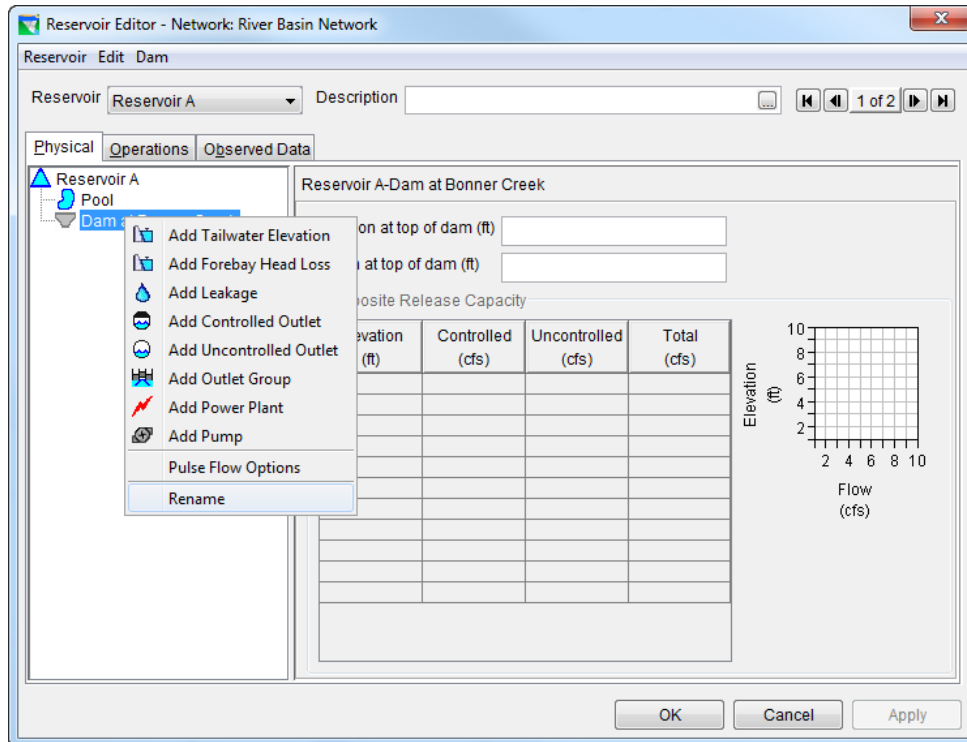

Figure 26: Reservoir Editor, Rename Dam
- The **Observed Data** tab is used to indicate that observed data is available for comparison purposes [Section 10.23]. If the **Observed** box is “checked” in the table (as shown in Figure 26), then there will be a corresponding entry in the Observed Time-Series mapping table when an Alternative is created [Section 13.9].